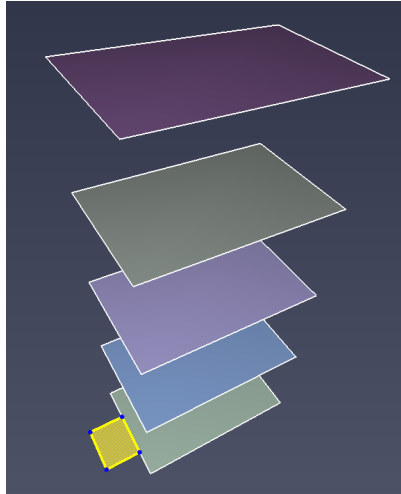

Figure 67. Draw elevator room geometry
1. Draw a room that defines the shape of the elevator, preferably on the discharge floor, see Figure 67.